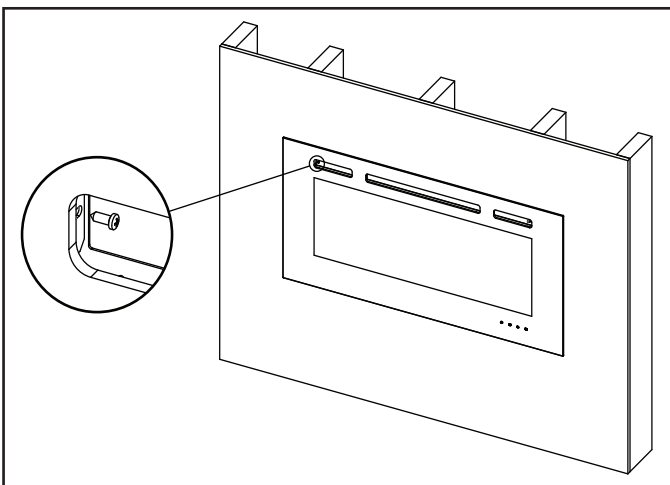

Figure 7. Secure Glass Front
8. Thread the two (2) ST3X8 screws into the threaded holes on the glass panel. Check the alignment of the glass panel and securely tighten the screws. See Figure 7.